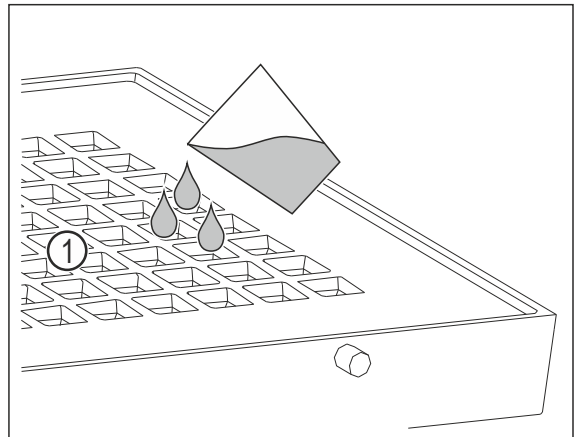

Fig. 98
- ▶ Fill with a maximum of 400 ml of water through the holes Fig. 98 (1) in the cover.